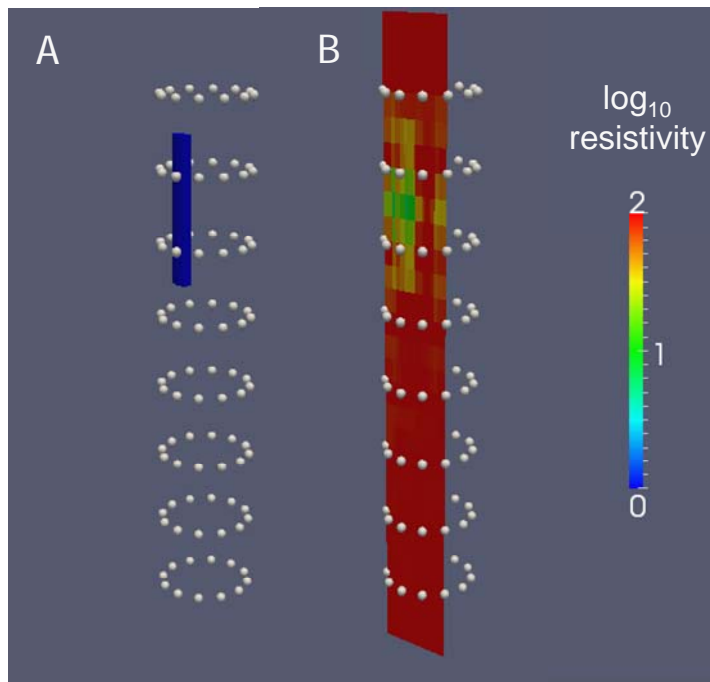

Figure 7. (A) Target and (B) resistivity model from Inverse(1) problem.
The folder "Inverse(1)" contains an example inversion dataset. The output from the forward model in Forward(1) is perturbed with 2% Gaussian noise and inverted. The mesh file (mesh3d.dat) shows that the 25920 finite elements are grouped into 3240 parameters (8 elements per parameter). Figure 7 shows the result from the inversion alongside the true anomaly.